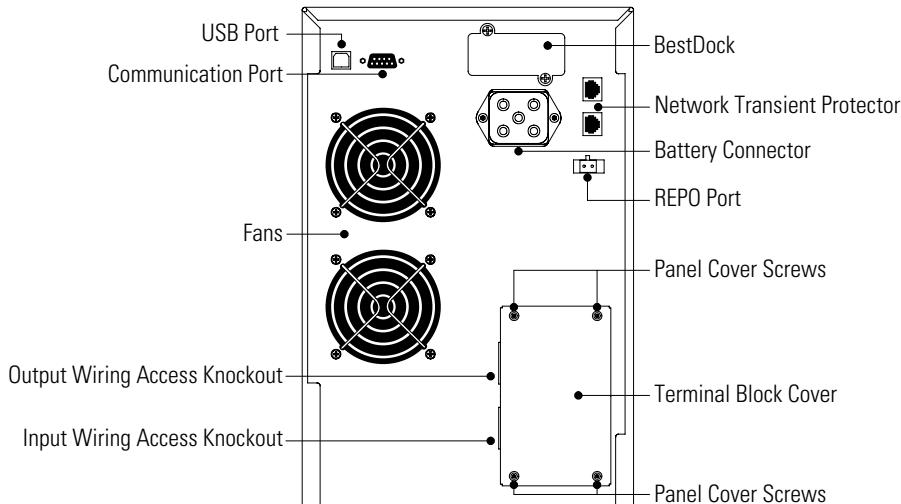

Figure 12. 3000 VA, 120V Hardwired Rear Panel
6. Remove the terminal block cover and the wiring knockouts (see Figure 12). Retain the terminal block cover.